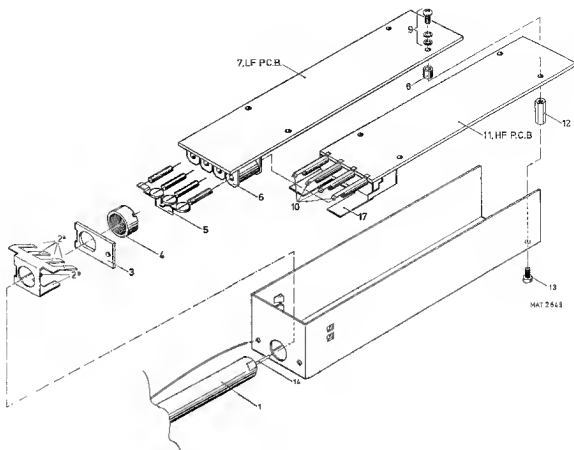

Figure 10.5 Exploded view of attenuator.
- It is strongly recommended to take notice of this chapter and belonging figure 10.5 before starting the job.